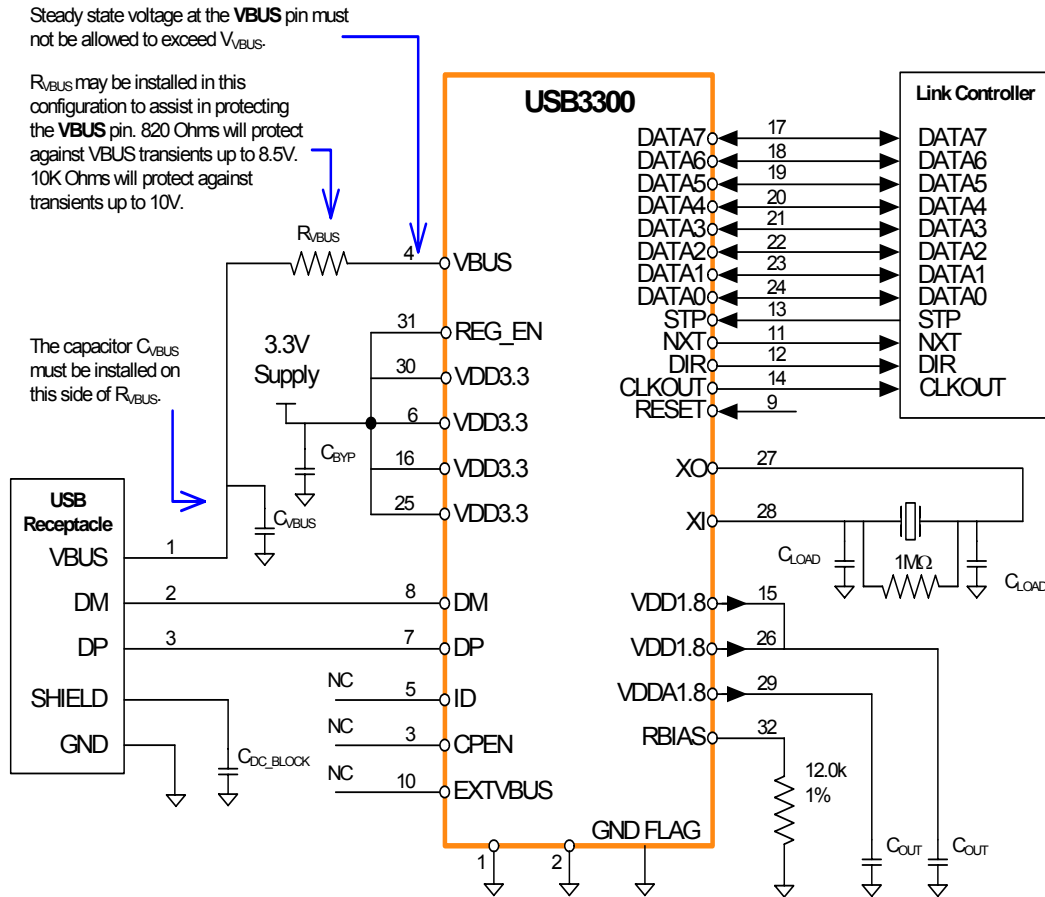
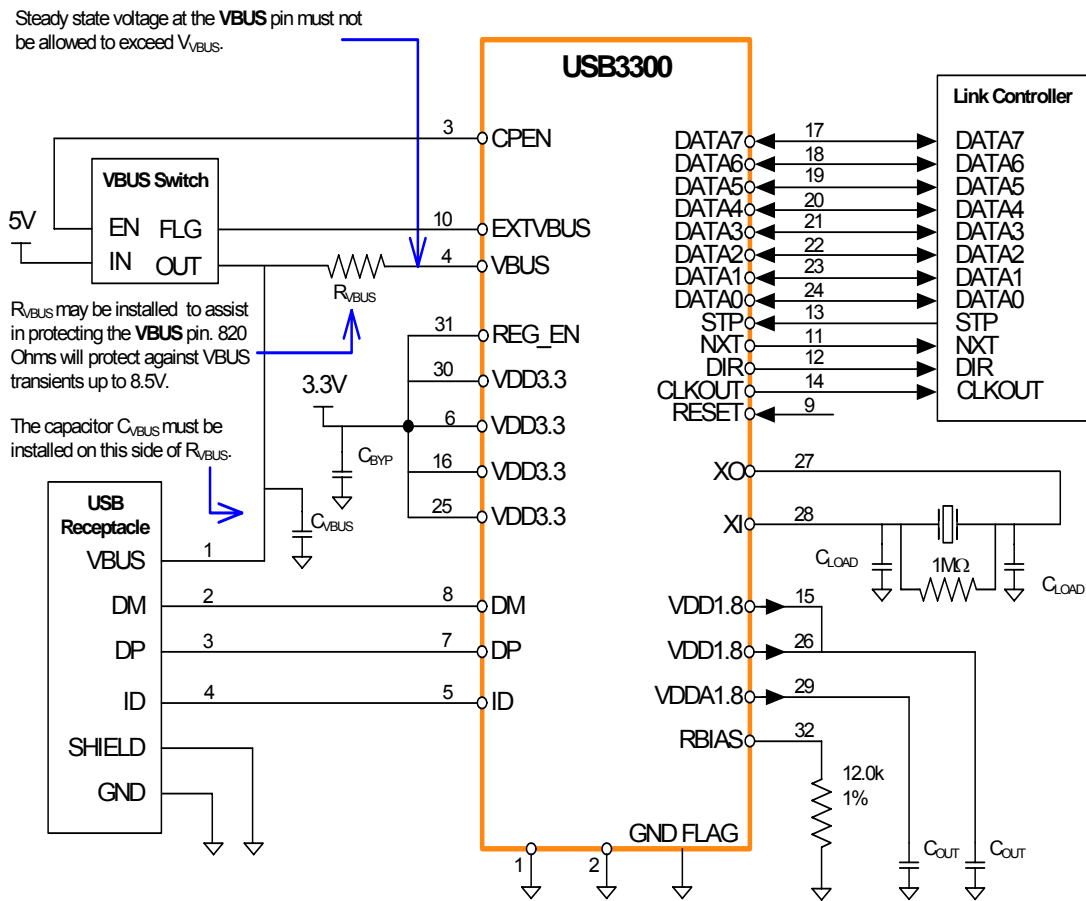

Figure 7.1 USB3300 Application Diagram (Peripheral)
Figure 7.2 USB3300 Application Diagram (Host or OTG)
The USB3300 can use either a crystal or an external clock oscillator for the 24MHz reference. The crystal is connected to the XI and XO pins as shown in the application diagram, Figure 7.1. If a clock oscillator is used the clock should be connected to the XI input and the XO pin left floating. When an external clock is used the XI pin is designed to be driven with a 0 to 3.3 volt signal. When using an external clock the user needs to take care to ensure the external clock source is clean enough to not corrupt the high speed eye performance.
**Note:** The specific capacitor recommendations for each pin are detailed in Table 3.1, "USB3300 Pin Definitions 32-Pin QFN Package", and shown in Figure 7.1 USB3300 Application Diagram \(Peripheral\) on page 47. The USB3300 regulators are designed to generate a 1.8 volt supply for the USB3300 only. Using the regulators to provide current for other circuits is not recommended and SMSC does not guarantee USB performance or regulator stability.
One method of protecting the VBUS pin from excessive voltage (transients) is to place a resistor ( $R_{VBUS}$ ) in series as shown in Figure 7.1, "USB3300 Application Diagram (Peripheral)" and Figure 7.2, "USB3300 Application Diagram (Host or OTG)". The resistor provides protection against transients that exceed the value of  $V_{VBUS}$  provided in Table 4.2, "Recommended Operating Conditions". When  $R_{VBUS}$  is installed, the transient must not be allowed to exceed the value of  $V_{VBUS}$  for longer than 500  $\mu$ s.